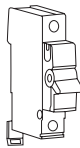

fig 4.
4. Fully open the bottom device clip (fig 4.)